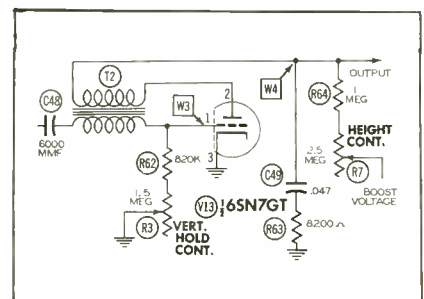
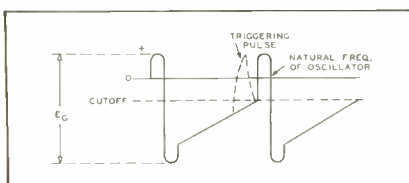
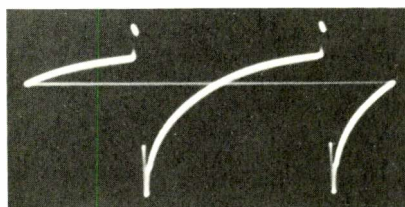

Figure 7-8. A Blocking Oscillator Employing One-Half of a 6SN7.
Figure 7-9. Grid Waveform of a Blocking Oscillator with Vertical Sync Pulse.
Figure 7-10. The Grid Waveform of the Blocking Oscillator of Figure 7-8, Taken at Point W3.
Blocking Oscillator: Figure 7-8 represents a typical blocking oscillator circuit employed in present day receivers. As is typical of all blocking oscillator circuits, the voltage feed-back is provided by the transformer, T2. The trace portion is formed when the tube connects.
Figure 7-9 shows the waveform present at the grid of the blocking oscillator. The oscillator is operating at its natural frequency and will do so until the vertical pulse reaches the grid and triggers the oscillator. The dotted pulse shown in Figure 7-9 is the triggering pulse of the vertical sync. The photograph in Figure 7-10 is the waveform taken at point W3 of Figure 7-8. It shows the actual operation at the grid of the blocking oscillator, with the vertical sync pulse triggering the oscillator at the sync frequency.
The output of the oscillator is taken from the primary side of the feed-back transformer and is fed to the saw-tooth forming capacitor. In the circuit of Figure 7-8 the saw-tooth capacitor is C49. Across this capacitor the desirable saw-tooth, which is to be used for vertical sweep, is formed. Some circuits employ another tube in conjunction with the discharge capacitor but this is not always necessary. As is the case of the circuit in Figure 7-8, the blocking oscillator tube is also used as the discharge tube. The addition of a discharge tube is for greater stability. If good stability is obtained with the use of the blocking oscillator tube alone, the additional discharge tube is not necessary.
Figure 7-11. (A) Waveform Taken Across the Discharge Capacitor and Peaking Resistor of Figure 7-8. (B) An Expanded View of Photograph A. (C) Waveform Across The Discharge Capacitor. (D) Waveform Across the Peaking Resistor. (E) An Expanded View of Photograph D.